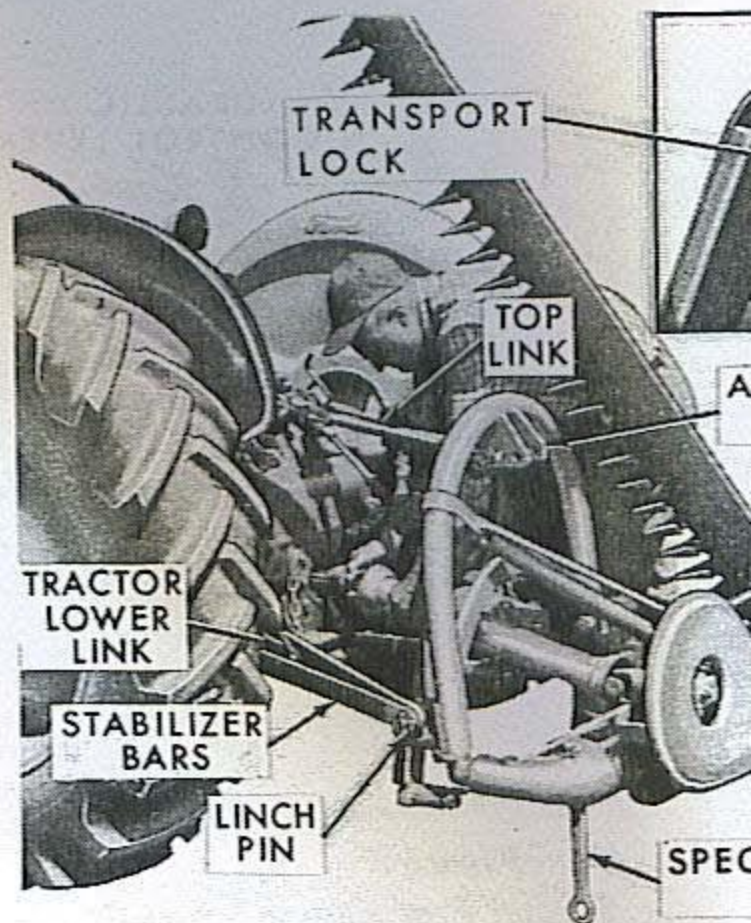

Figure 4
4. Position the stabilizers (if bar type) on the link pins and secure with linch pins as shown in Figure 4.
5. Attach the tractor top link to the mower attaching bracket with a link pin and secure in place with a linch pin. See Figure 4.
1. Raise the cutter bar to the transport position and secure with the cutter bar transport lock, as shown in the Insert, Figure 4.
2. Position the special mower wrench in the lower frame, as shown in Figure 4. Then, lower the mower with the tractor hydraulic control lever until the mower is resting on the wrench.
4. Depress the spring-loaded lock pin on the front universal joint of the P.T.O. and slide the joint off the tractor P.T.O. shaft, as shown in Figure 4.
6. Detach the top link, Figure 4, from the attaching bracket.
7. Detach the stabilizer bars and the top link, Figure 4, from the mower.
The transport lock assembly, Figure 4, is used to provide safe transport for the mower when mounted on 9N, 2N, or 8N tractors. It is also used on other tractor not equipped with a P.T.O.